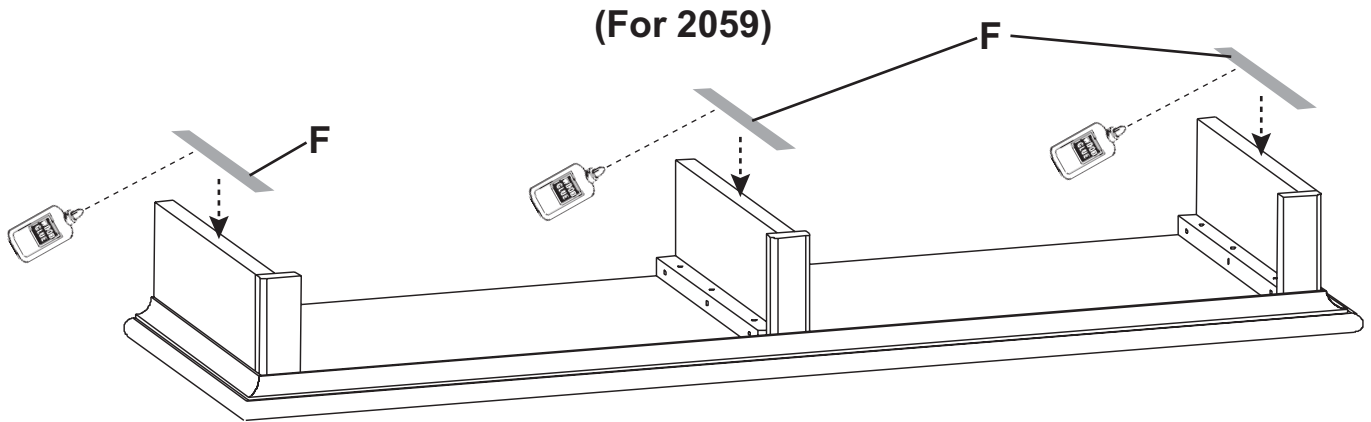

Fig. 1
1. Turn your unit upside-down on a clean, protected surface. Spread a thin, even amount of glue on the non-fuzzy face of the Pad Strip (F). Secure it to the underside of the leg. Repeat for the other leg(s). See Figures 1 and 1a. Allow the glue to thoroughly dry before attaching it to another unit.